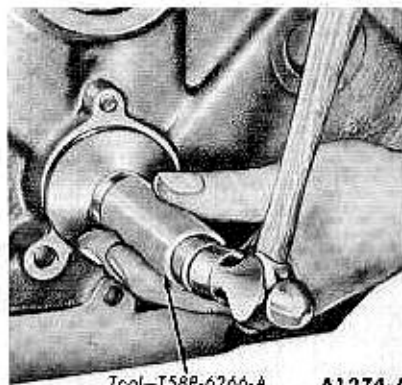

FIG. 33—Camshaft Rear Bearing Bore Plug Installation
3. Coat the flange of a new plug with water resistant sealer and install it with the flange facing in (Fig. 33).